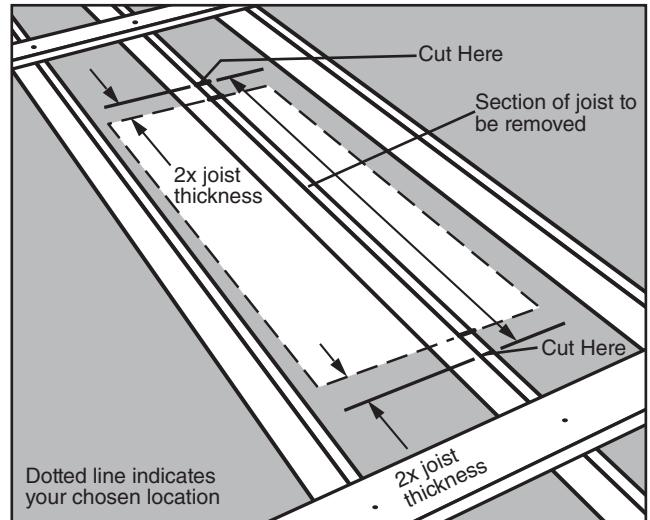
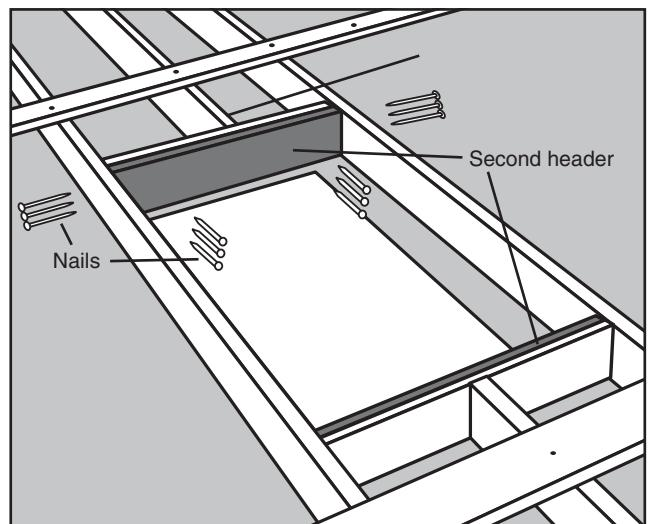

FIGURE 10
FIGURE 16
STEP 4. Determine where the joist(s) should be cut. Figure 10 shows where to mark the joist(s) that span your chosen location. Note that the joist(s) should be marked back from the edge of your location a distance of 2 times the joist thickness (usually three inches). This leaves room for two joist-sized headers to be placed against each end of the cut joist(s) (See Figure 16 on page 15).
- STEP 6.** Place a second header against the first header and nail it to the first header with (3) 16d nails between each joist (See Figure 16).
- STEP 7.** Drive (3) 16d nails through the joists into each end of the second header (See Figure 16).